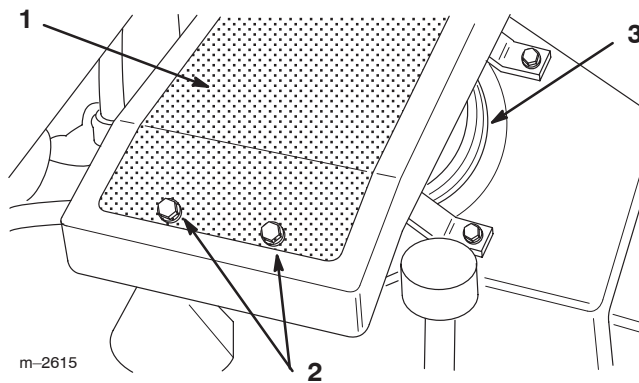

Figure 24
1. Remove oil cooler from the engine (Figure 24). Save all mounting hardware.
2. Blow out fins of oil cooler and area between fins and screen with compressed air. If area between screen and fins is tightly packed, remove oil cooler from screen. Removing two retaining screws (Figure 24). Save all mounting hardware.
3. Clean off engine air intake (Figure 24).
4. Install oil cooler onto engine with previously removed hardware (Figure 24).